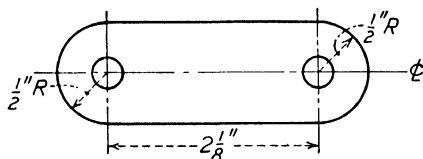

Fig. 133.—Washer plate with 2 holes drilled $\frac{5}{16}$ in. in diameter.
5. Make a full-scale drawing of this fitting shown in Fig. 133.